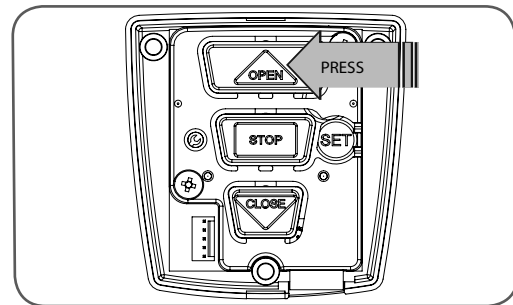

fig 10
4. Press and hold the OPEN button (**Fig. 10**) to open the shutter. When the shutter is at the desired open position, release the OPEN button.